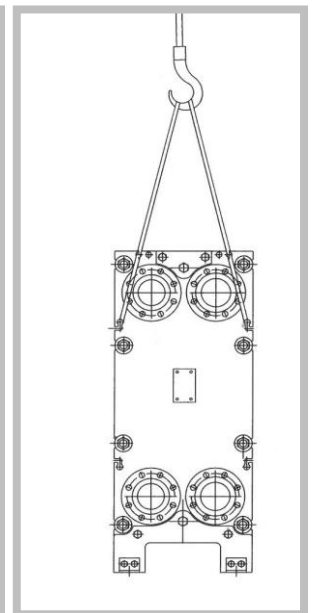

Figure 27
4. Carefully lower the PHE onto the base of the apparatus (Figure 27).